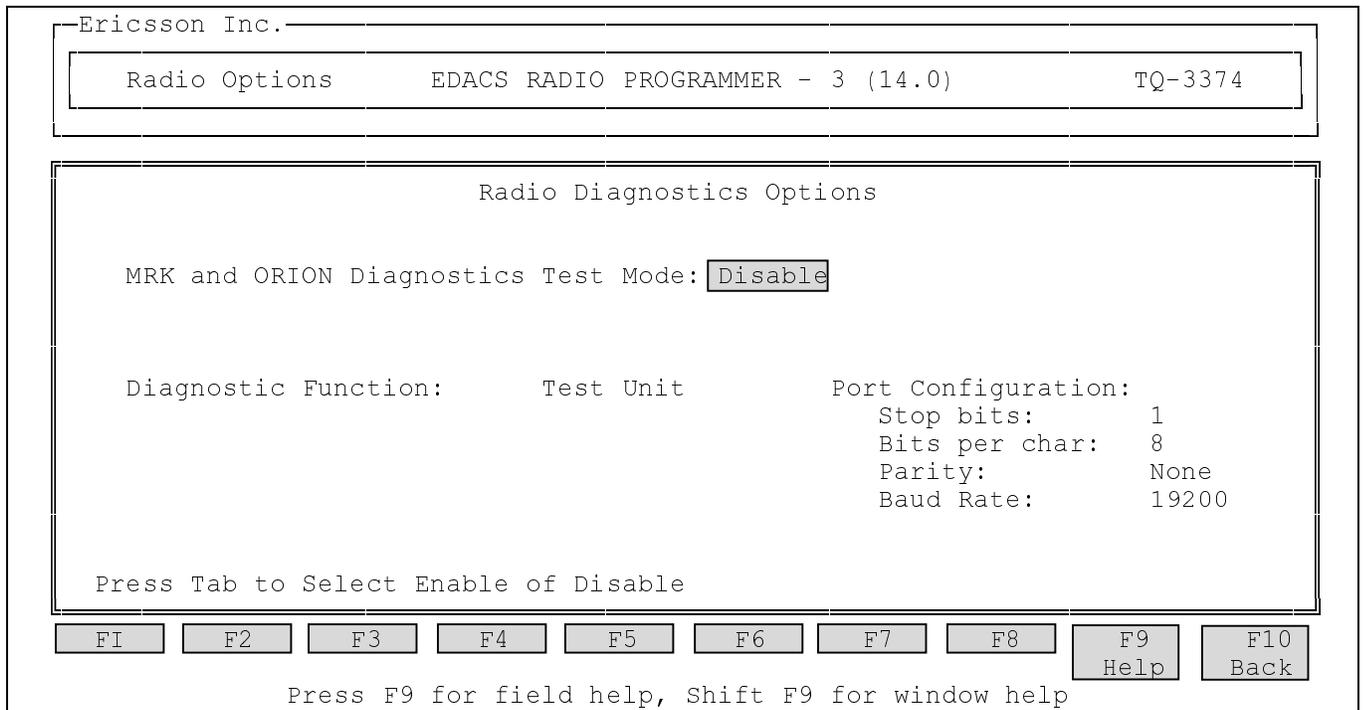

Figure 15 - Radio Diagnostics Options Screen
- Press the **F2** (DGNTST) function key to go to the **Radio Diagnostics Options** screen (Figure 15).